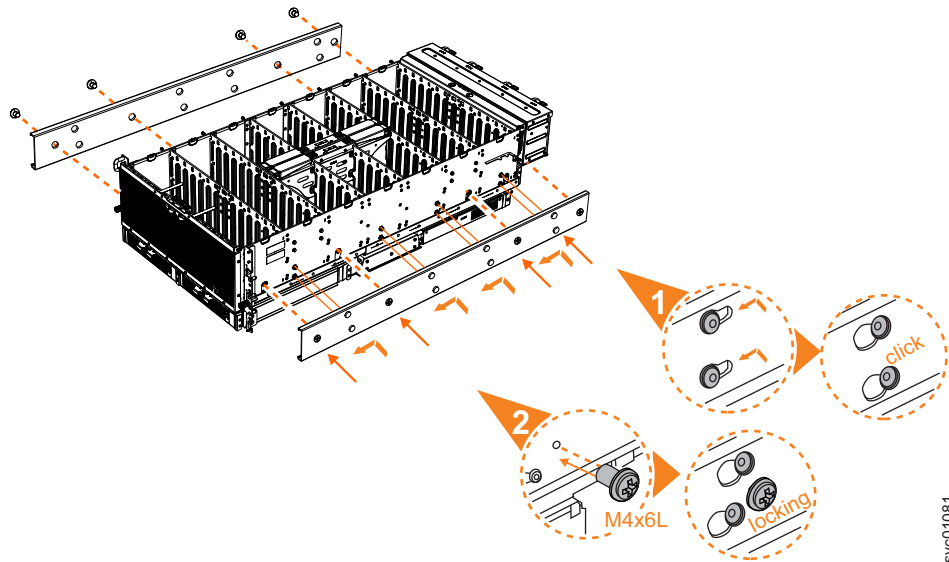

Figure 35. Attaching the inner rail section to the enclosure
5. Install the inner section of the rail onto each side of the expansion enclosure, as shown in Figure 35 on page 53.